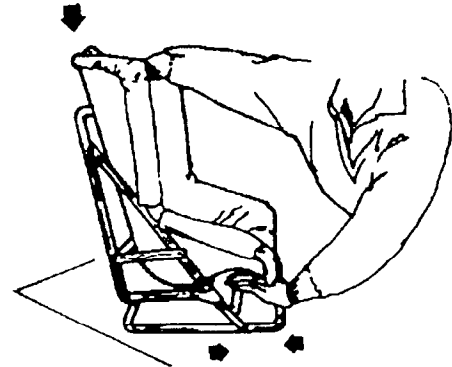

Figure 13
1. Recline SPELCAST by squeezing front two bars together while pushing down on its back (Figure 13).